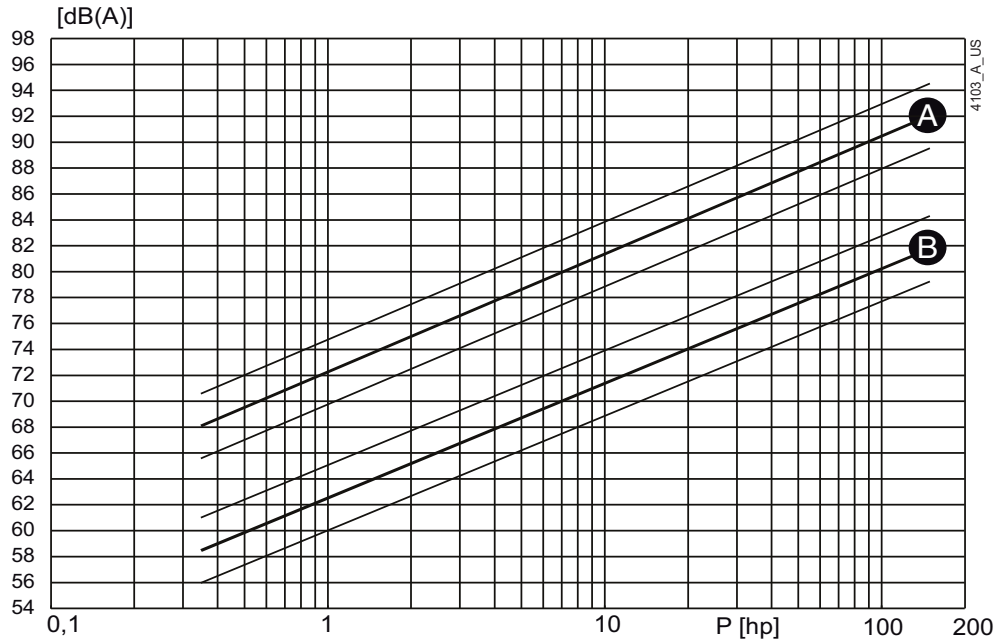
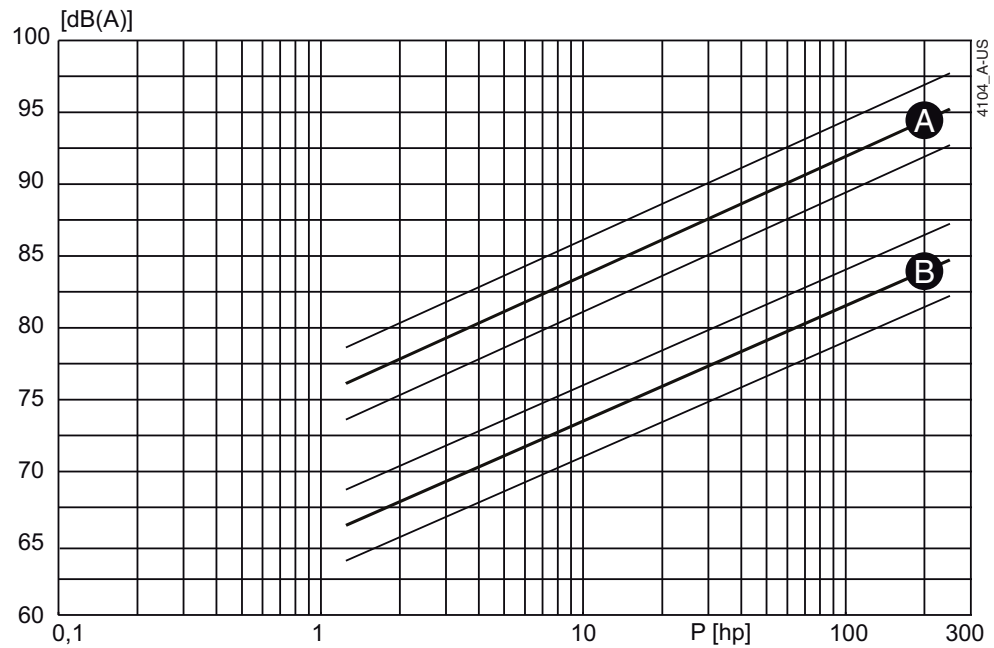

Figure 26: Noise level as function of pump power [Hp] at 1750 rpm
Figure 27: Noise level as function of pump power [Hp] at 3500 rpm
- 1 Determine the noise level (L1) of the pump, see figure 26 or figure 27.